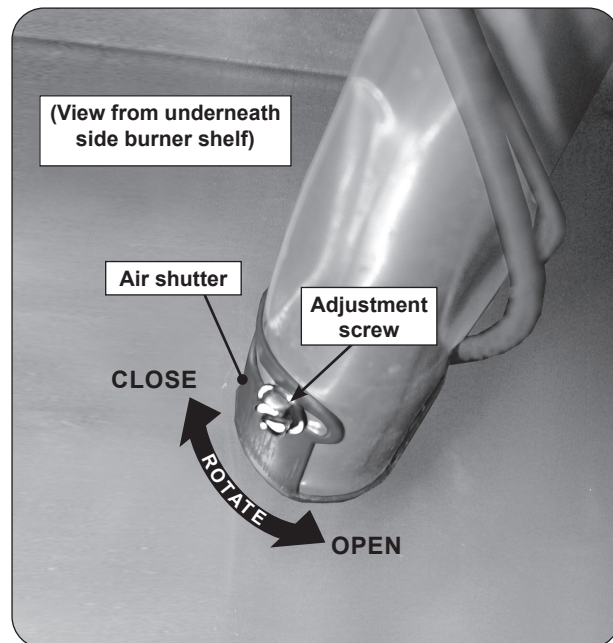

Fig. 47-1 Side burner air shutter adjustment detail
2. Loosen the adjustment screw with a flathead screwdriver, then carefully rotate the shutter to open or close it. See Fig. 47-1 for details.